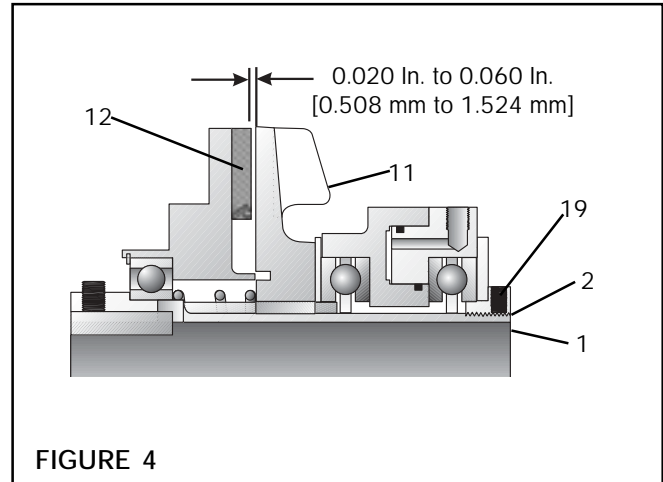

FIGURE 4
1. With a 0.020 In. [0.508 mm] to 0.060 In. [1.524 mm] feeler gauge, check the gap between the Friction Disc (Item 11) and the Friction Facing (Item 12) (See Figure 4).
2. If the gap is less than 0.020 In. [0.508 mm] loosen the Set Screw (Item 19) and rotate the Adjustment Nut (Item 2) counterclockwise until one of the Set Screw's holes is over the flat in the Hub (Item 1) and the feeler gauge can be inserted between the Friction Facing (Item 12) and the Friction Disc (Item 11) (See Figure 4).
3. If the gap is greater than 0.060 In. [1.524 mm] loosen the Set Screw (Item 19) and rotate the Adjustment Nut (Item 2) clockwise until one of the Set Screw's holes is over the flat in the Hub (Item 1) and the feeler gauge can be inserted between the Friction Facing (Item 12) and the Friction Disc (Item 11) (See Figure 4).